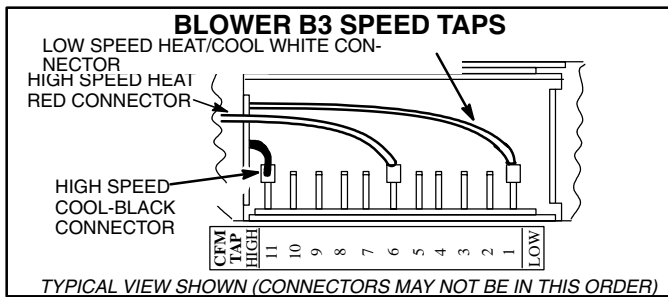

FIGURE 39
- 5 - Remove the appropriate speed connector and place it on the proper tap. See figure 39.